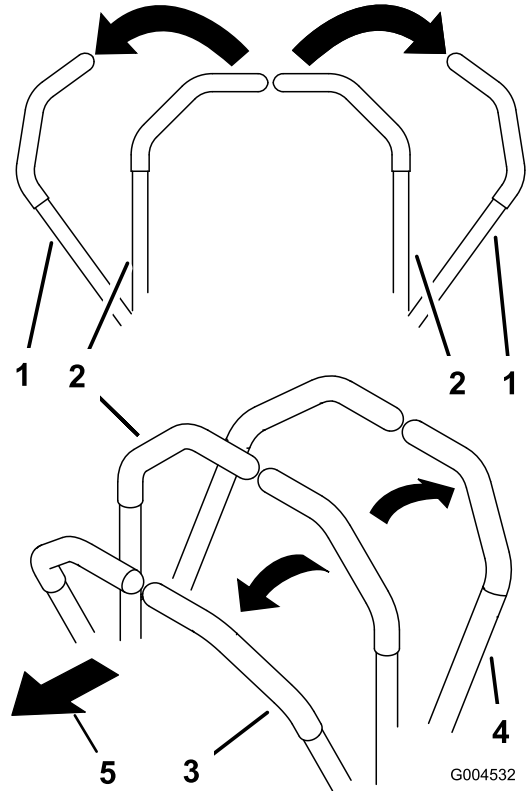

**Figure 23**
5. Remove the clevis pin and hairpin cotter from the storage location and secure each wing in the upright position (Figure 23).